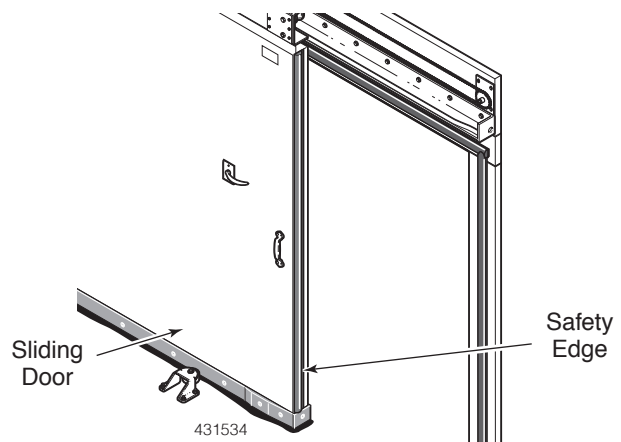

Figure 36
2. Test the sensitivity. Start the Door closing with the Pull Cord or Test pushbutton. Touch the Safety Edge with a tool to reverse the Door and verify the proper sensitivity. See Figure 36.